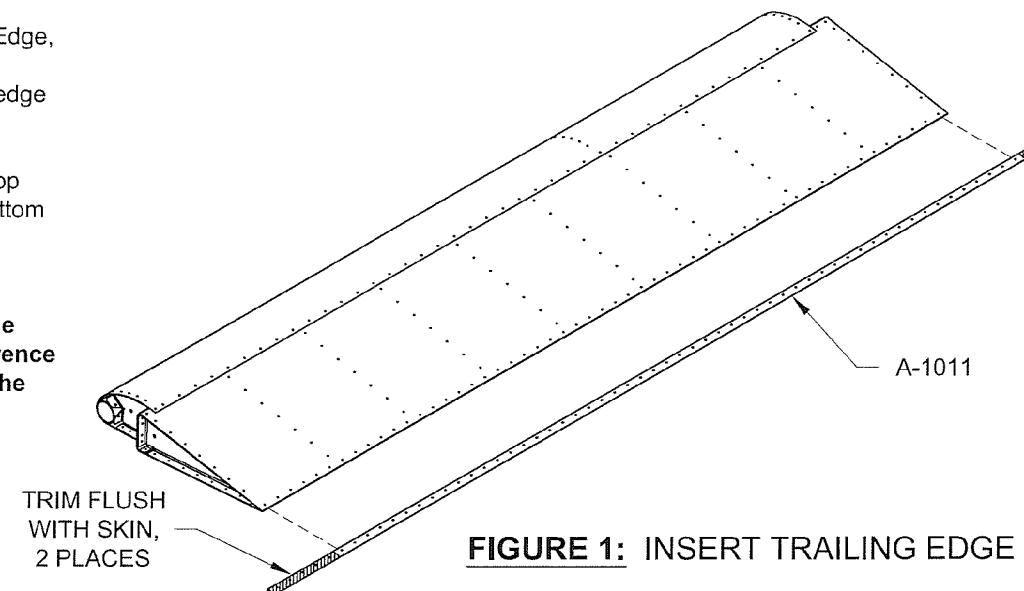

FIGURE 1: INSERT TRAILING EDGE
Step 1: Cleco the A-1011 Trailing Edge, made from VA-140 Trailing Edge extrusion, into the aileron's trailing edge and trim as shown in Figure 1.